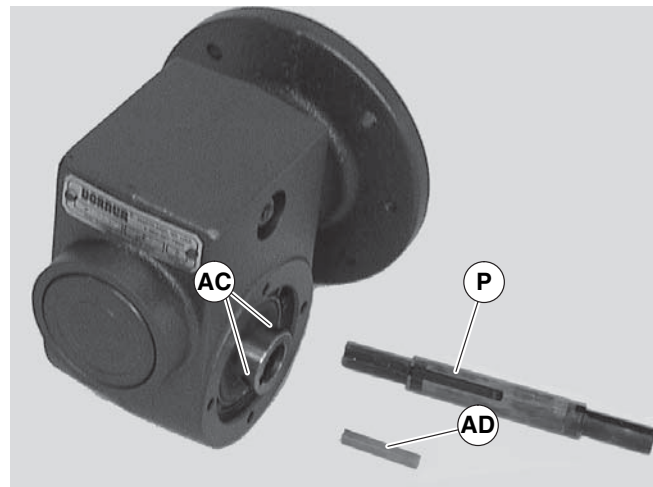

Figure 38
- Remove gear reducer output shaft keys (I).
- Loosen six (6) set screws (Figure 38, item AC). Remove drive shaft (P) and key (AD).
- Replace the original shaft components into new gear reducer (see Figure 38).